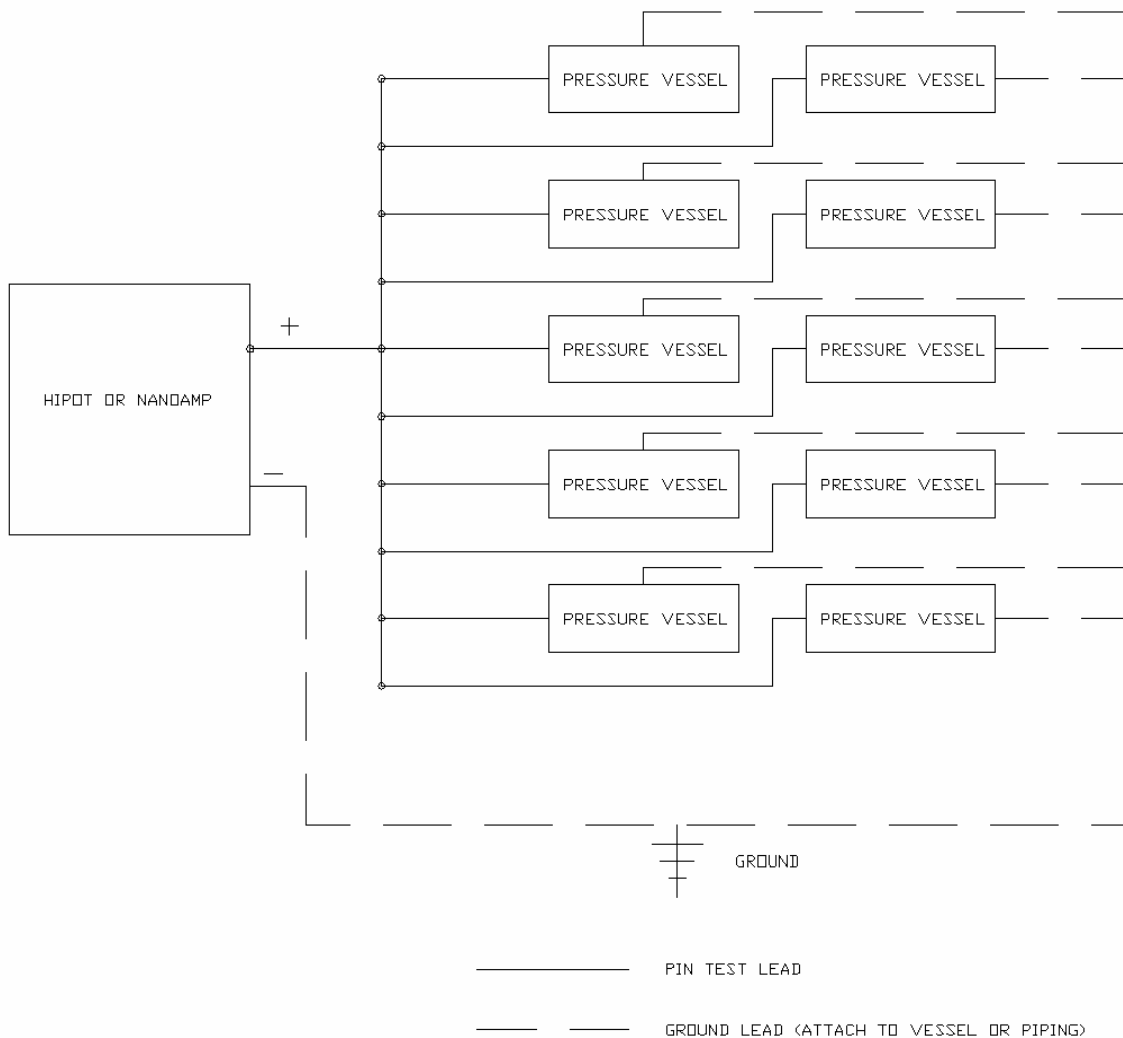

FIGURE 7: TEST CONFIGURATION FOR HIPOT OR NANOAMP TESTING
- 8.5 CONNECT THE TEST LEAD OF THE HIPOT TO THE JUNCTION OF THE PIN TEST LEADS. CONNECT THE GROUND LEAD OF THE HIPOT TO THE HIGH PRESSURE METAL TUBING. ENSURE THAT ALL PRESSURE VESSELS ARE GROUNDED TO THE GROUND WIRE. REFER TO FIGURE 7 FOR ADDITIONAL GUIDANCE.